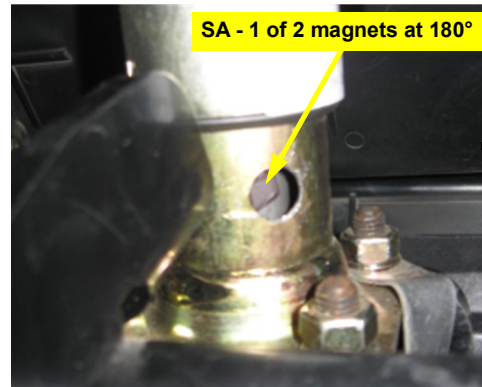

Figure 2b: Installed magnet(s)
b. Remove the right side track adjusting cylinder's outer mounting bolt (Figure 2b inset). Using this bolt, mount the WAS and bracket assembly. Mount the assembly with connector arm **WC** uppermost (Figure 2b).
Figure 2b with inset: WAS assembly installed
- b. Cut one magnet **SA** in half then trim each half into shape to pass through the 1/2" hole (keep the magnet as big as possible, round for example). Using the two-part epoxy **SB**, attach one half of the magnet to the inner steering shaft. Turn the shaft 180° and attach the other half of the magnet (Figure 2b).